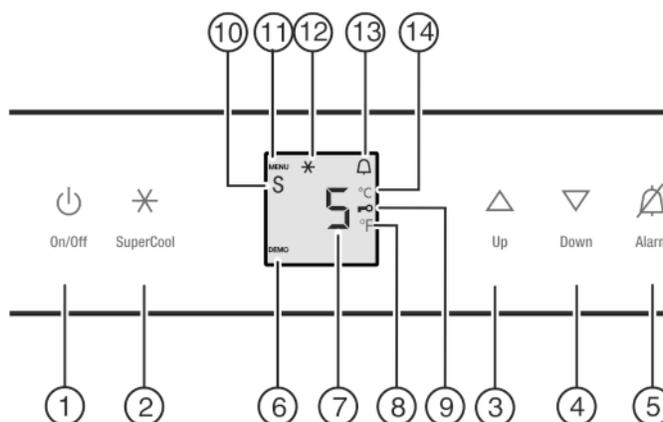

Fig. 2
- ▶ Press the On/Off button Fig. 2 (1).
- ▶ To activate setting mode: Press and hold the SuperCool button *Fig. 2 (2)* for approx. 5 s.
- ▷ The Menu symbol *Fig. 2 (11)* lights up.
- ▶ Using Up button *Fig. 2 (3)*/ Down button *Fig. 2 (4)* select °.
- ▶ To confirm: Briefly press the SuperCool button *Fig. 2 (2)*.
- ▶ To exit setting mode: Press On/Off button *Fig. 2 (1)*.
- ▶ Select setting mode: Press and hold the SuperCool button *Fig. 2 (2)* for approx. 5 seconds.
- ▶ Using the Up *Fig. 2 (3)* or Down button *Fig. 2 (4)*, select c.
- ▶ Press the SuperCool button *Fig. 2 (2)* briefly to confirm. When c1 is shown on the display:
- ▶ To switch on the child proof lock, press the SuperCool button *Fig. 2 (2)* briefly.
- ▷ The Child safety symbol *Fig. 2 (9)* lights up. c flashes on the display. When c0 is shown on the display:
- ▶ To switch the child proof lock off, press the SuperCool button *Fig. 2 (2)* briefly.
- ▷ The Child safety symbol *Fig. 2 (9)* goes out. c flashes on the display.
- ▶ To deactivate setting mode: Press the On/Off button *Fig. 2 (1)*.
- ▶ Press Alarm button *Fig. 2 (5)*.
- ▶ To access the Sabbath mode function: Briefly press the SuperCool button *Fig. 2 (2)*.
▶ **To turn on** Sabbath mode, briefly press the SuperCool button *Fig. 2 (2)*.
▶ **To turn off** Sabbath mode, briefly press the SuperCool button *Fig. 2 (2)*.
▶ To deactivate setting mode: Press the On/Off button *Fig. 2 (1)*.
▷ The Sabbath Mode symbol *Fig. 2 (10)* appears on the temperature display as long as Sabbath Mode is active.
▶ To set a higher temperature: press the Up button *Fig. 2 (3)*.
▶ To set a lower temperature: press the Down button *Fig. 2 (4)*.